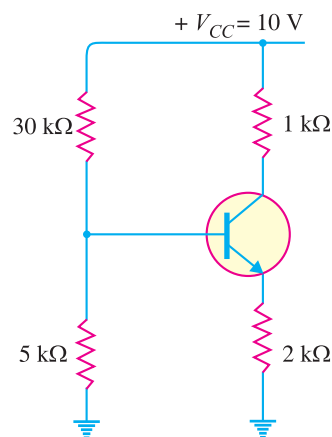

Fig. 9.51
8. In a transistor circuit shown in Fig. 9.51, find the operating point. Assume silicon transistor is used. [$I_C = 0.365\text{mA}$, $V_{CE} = 8.9\text{V}$]